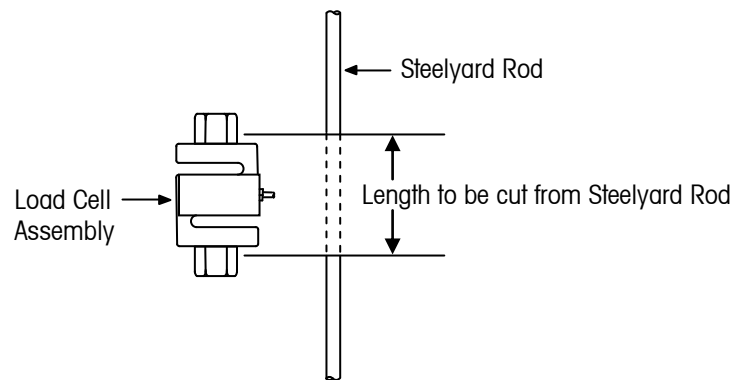

Figure 4-4: Cut the Steelyard Rod
2. Cut the existing steelyard rod to remove the section that will be replaced by the load cell assembly (see Figure 4-4). Refer to Chapter 3 to determine the length of rod that needs to be removed.